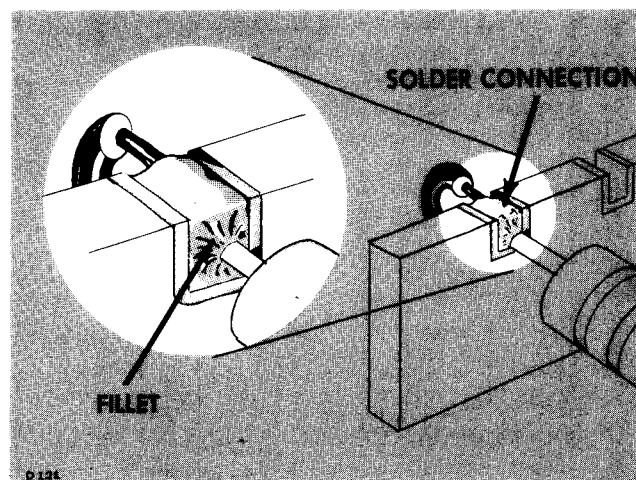
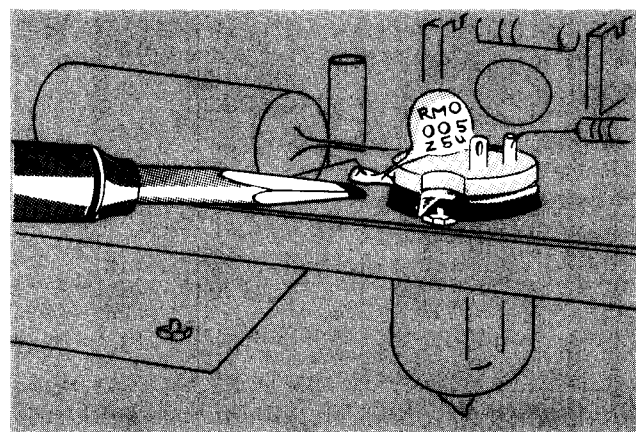

Fig. 5-5. A slight fillet of solder is formed around the wire when heat is applied correctly.
Fig. 5-6. Soldering to a terminal. Note the slight fillet of solder—exaggerated for clarity—formed around the wire.
6. Do not attempt to fill the notch on the strip with solder; instead, apply only enough solder to cover the wires adequately, and to form a slight fillet on the wire as shown in Fig. 5-5.
In soldering to metal terminals (for example, pins on a tube socket) a slightly different technique should be employed. Prepare the iron as outlined above, but tin with ordinary tin-lead solder. Apply the iron to the part to be soldered as shown in Fig. 5-6. Use only enough heat to allow the solder to flow freely along the wire so that a slight fillet will be formed as shown in Fig. 5-5.